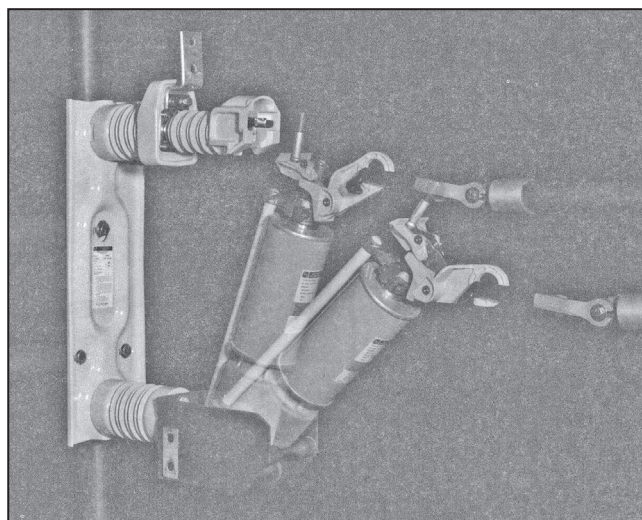

Figure 3. Closing (or opening) the fuse.
**STEP 2.** Pull the fuse vigorously through its full travel without hesitation at any point. See Figure 3. A downward force should be maintained on the universal pole through the fuse-opening operation to counteract any tendency the fuse may have to bounce toward the Closed position.
**STEP 2.** With the Grappler tool prongs pointed downward, insert the longest prong in the pull-ring of the fuse. Then, keeping your face turned away, close the fuse with a swift, unhesitating stroke. See Figure 3 on page 7.